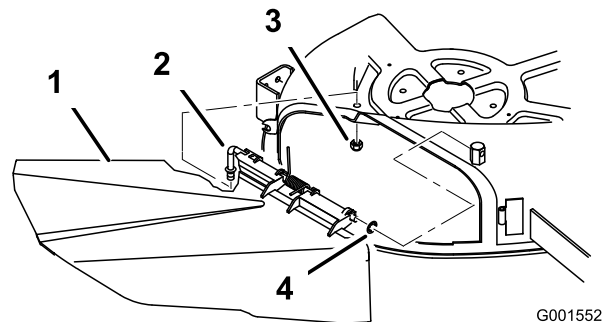

Figure 20
1. Locate the grass deflector and hardware in Figure 20.
2. Insert the rod at the front of grass deflector into the short stand-off on the deck. Secure the rear part of the rod into the mower with a nut (3/8 inch) (Figure 20).